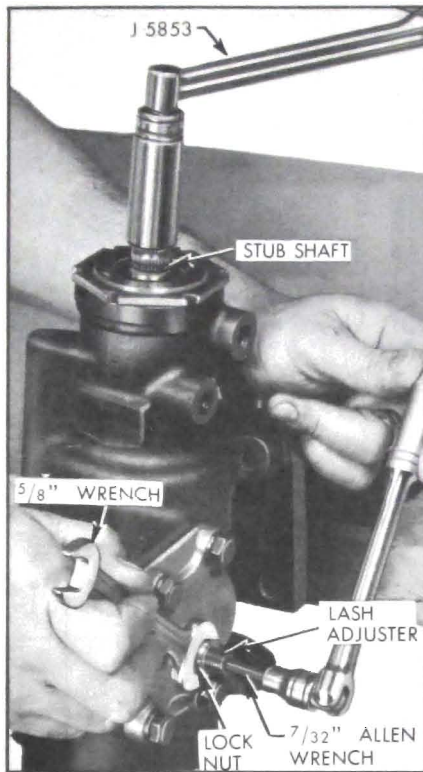

Figure 8-33—Pitman Shaft Over Center Adjustment
5. If readings are within specifications, check and adjust if necessary, pitman shaft "over-center" adjustment. Reading on torque wrench should be 4 to 8 inch pounds higher than was obtained in Step 5. See Figure 8-33. This reading is taken when rotating stub shaft through "high-point" range with lash adjuster nut tight.